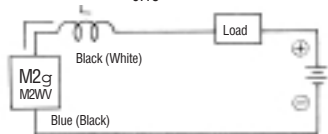

Fig. 5. Choke coil L= hundreds of H - several mH, with high-frequency characteristic. Connection should be within 2m of switch.
- When lead wire is more than 10m long, be sure to wire a protection circuit as shown in Fig. 5, 6 (for M2, M2WV) or Fig. 7 (for M3, M3WV).